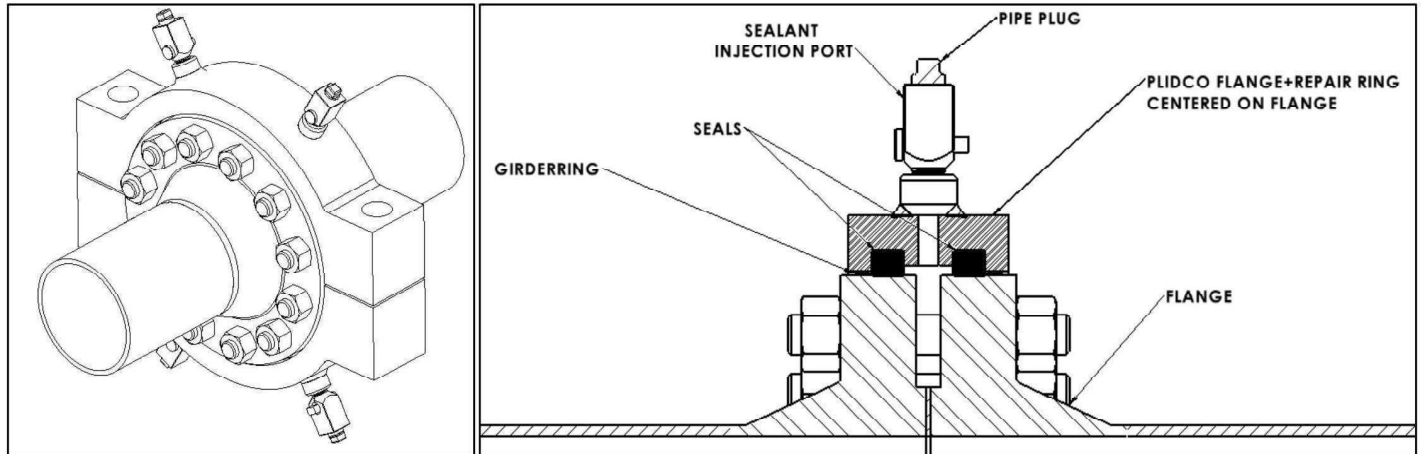

Figure 4
8. Assemble the PLIDCO Flange+Repair Ring around the flanges making sure the PLIDCO Flange+Repair Ring is centered over the gap between the flanges and the yellow painted ends are matched. It is recommended to orient the shell of the PLIDCO Flange+Repair Ring directly over the area of the flange set that has the most leakage. Avoid leaking fluid spraying directly on the longitudinal seals. One sealant injection port should be as close to the top and another as close to the leak as possible but not directly over the leak. This will help indicate when the annulus of the PLIDCO Flange+Repair Ring is full or that sealant has reached the top of the fitting. Figure 4 illustrates how the PLIDCO Flange+Repair Ring should fit around the flanges as well as provide names and locations for the different parts that make up the fitting.